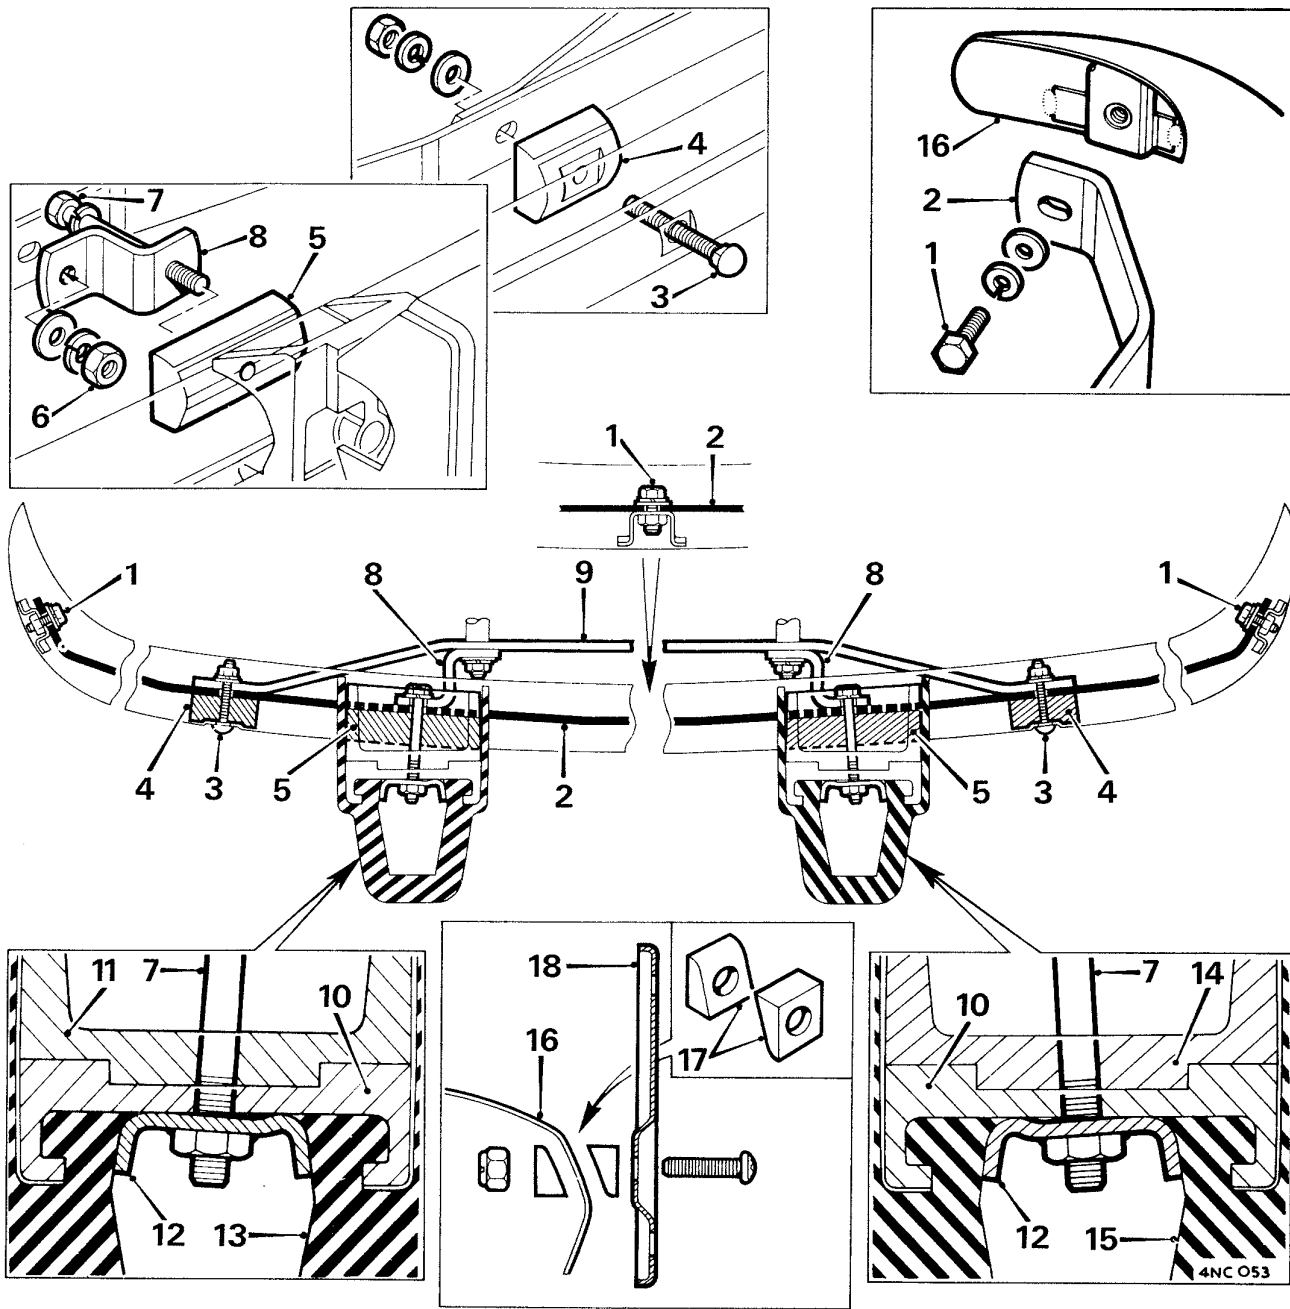

Fig. Rb.3
- (7) Reverse the procedure in 1 to 6, referring to Fig. Rb.3 and noting: